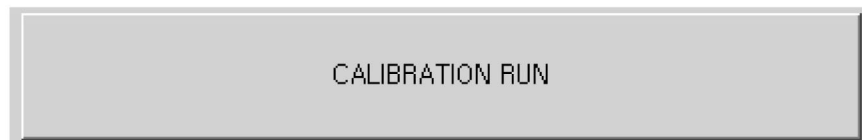

Figure 7-14. Calibration Run button
8. Click 'Calibration Run' button as shown in Figure 7-14. If you would follow 1 to 7 steps, you may not setup configuration step (1 to 7) next time, NOTE Most of functions (buttons) are not recommended to operate (clicked) directly .